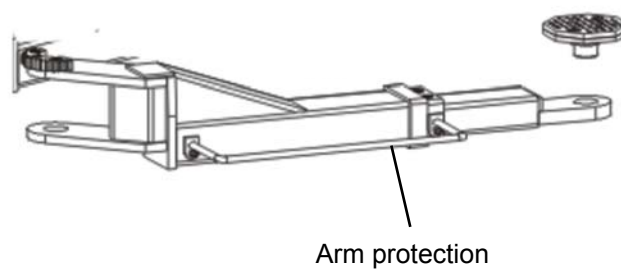

Fig. 17
- Install the protections for arms (fig. 17)
- Anti-crushing safety bars on the arms. (Fig.17)